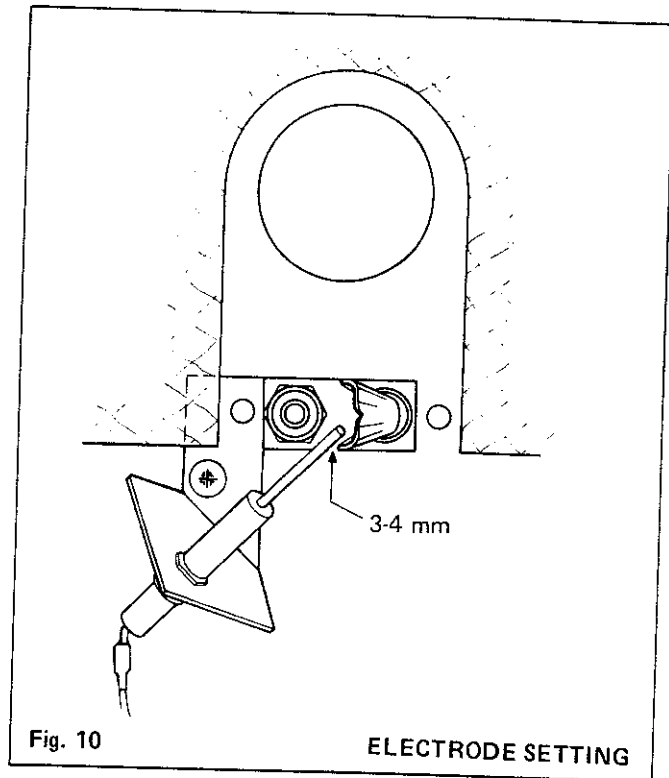

Fig. 10
13. Check the spark electrode setting. (See Fig.10).